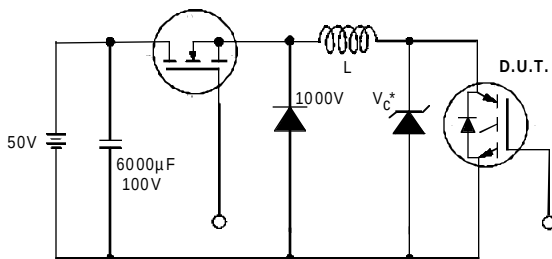

Figure 19. Clamped Inductive Load Test Circuit
- ② $V_{CC}=80\%(V_{CES})$, $V_{GE}=20V$, $L=10\mu H$, $R_G = 50\Omega$, (See fig. 19)
- ③ Pulse width $\leq 80\mu s$; duty factor $\leq 0.1\%$.
- ④ Pulse width $5.0\mu s$, single shot.
- ② $V_{CC}=80\%(V_{CES})$, $V_{GE}=20V$, $L=10\mu H$, $R_G = 22\Omega$ (figure 19)